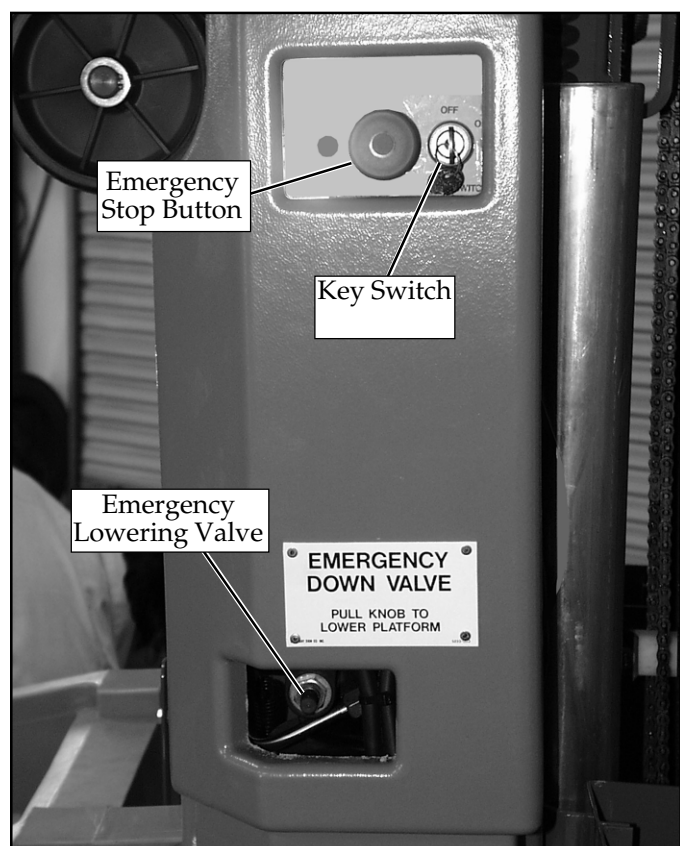

Figure 2-7: Base Controls
2. Turn Key to **ON**, Key Switch is located on the left side of the mast (Fig. 2-7).
Ask a person on the ground to open the Emergency Lowering Valve to lower the platform. This valve is located through a cutout in the power unit cover on the left side of the mast (Fig. 2-7).